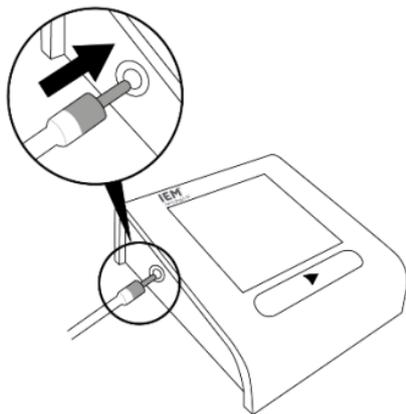

Fig. 7: Insert air hose
1. Insert the air hose connection into the air hose socket on the left side of the blood pressure monitor and place the blood pressure monitor on the table (see Fig. 7).